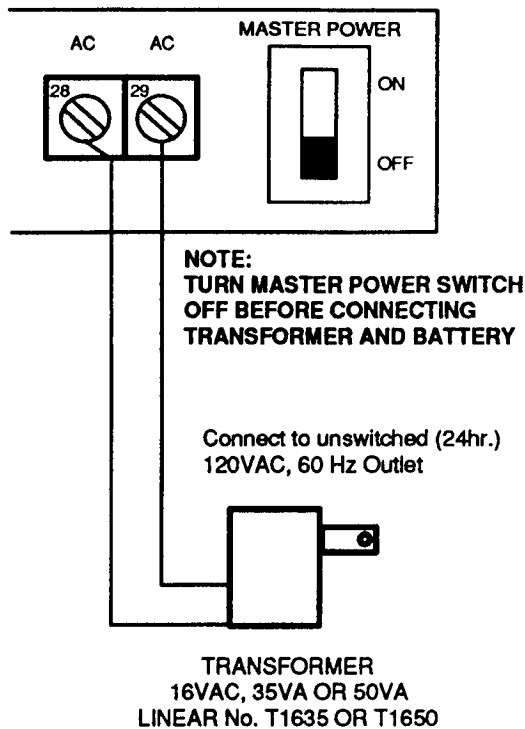

Figure 24. AC Transformer Connection
- STEP 1** Be sure that the CP-90 MASTER POWER switch is off (see Figure 24).